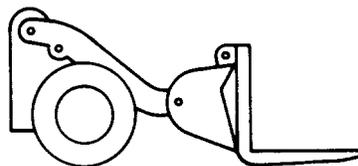

FIGURE 6—
- 4.1.6 Forks Over Bucket (see Figure 6)